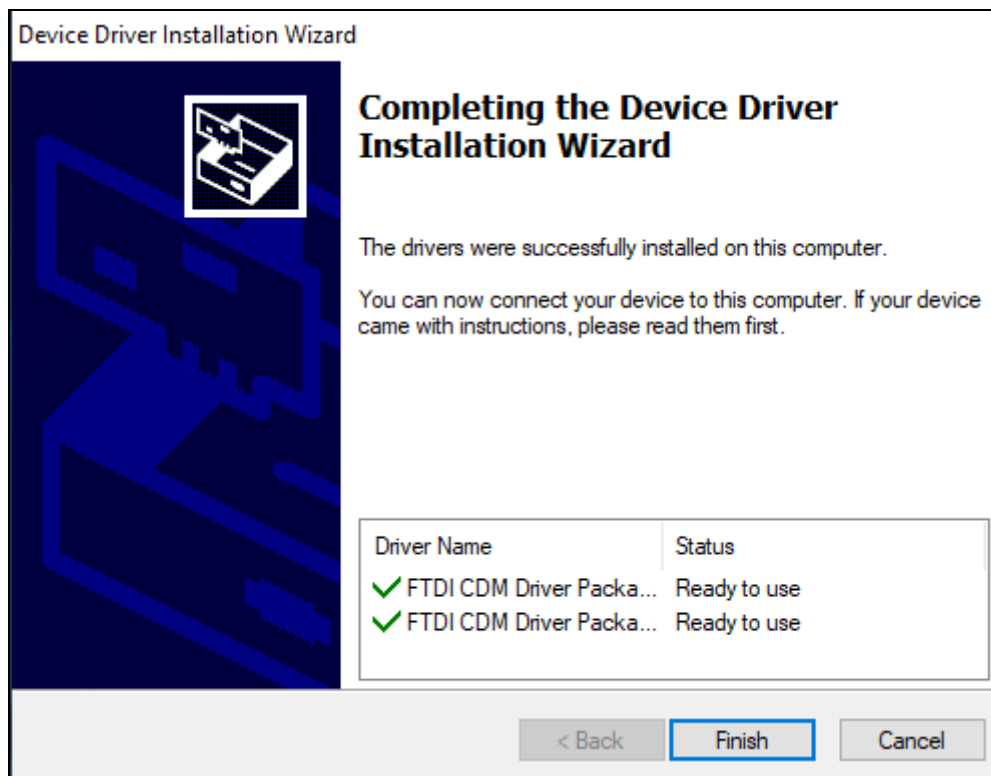

Fig. 3-4: Finish the USB drivers installation
3. Select "Finish" shown in Fig. 3-4: .